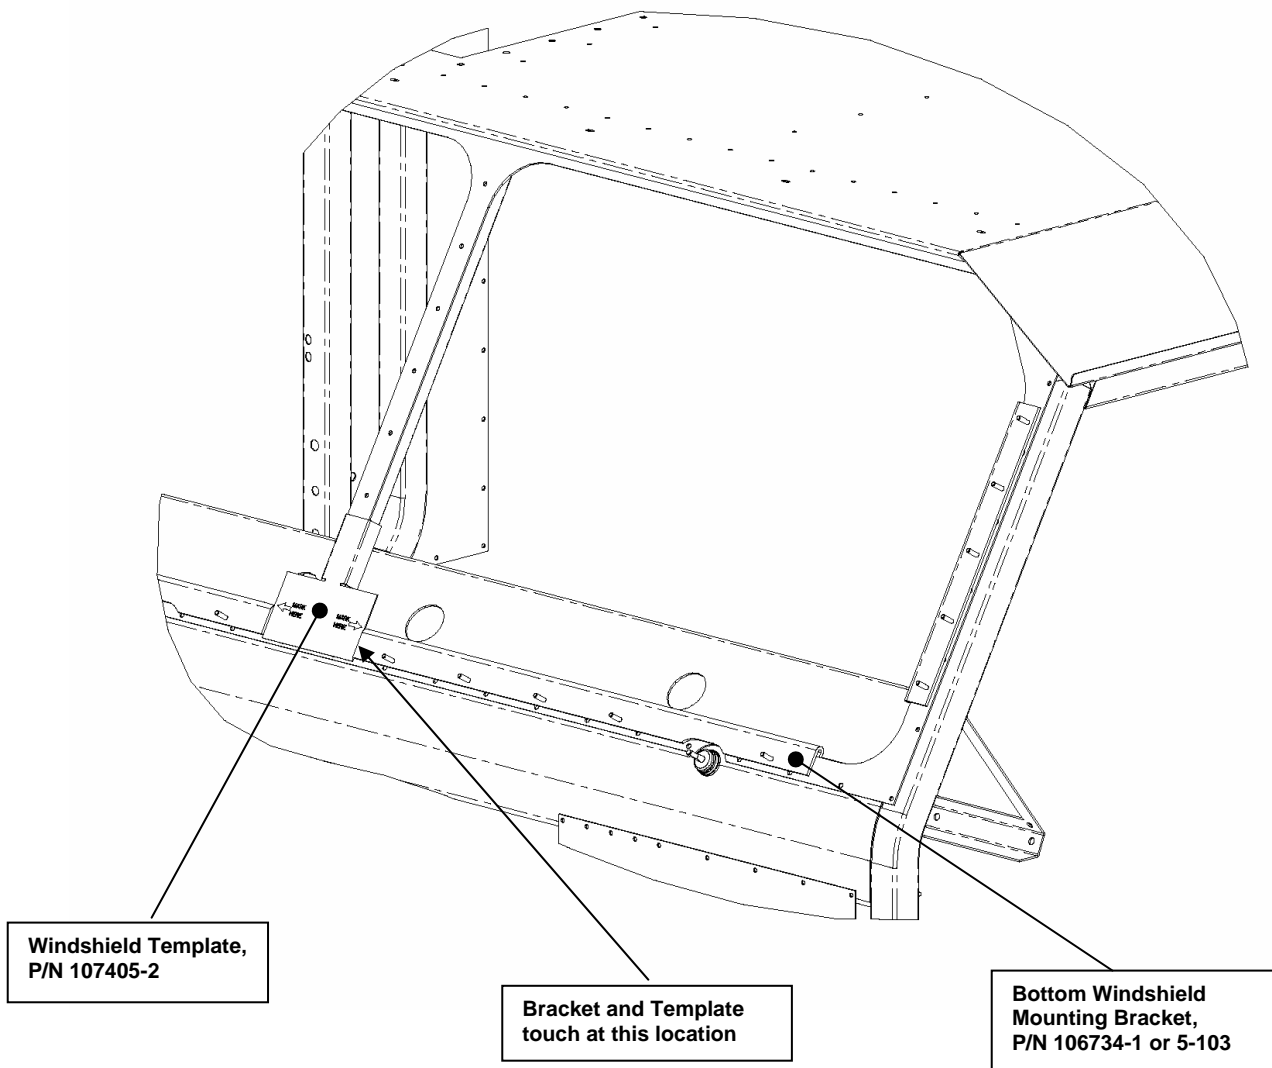

Figure 16. Windshield Bracket, Bottom Mounting.
- d) Place the Windshield Template (P/N 107405-3) on the vehicle, as shown in Figure 16. Place the Windshield Bracket (P/N 106734-1 or -5-103) against the Windshield Template, as shown in Figure 16. Tighten the bolts on both ends of the Windshield Bracket. Do not tighten all of the bolts at this time, as adjustment may be required in the next steps. Using the same Template, install the other Windshield Bracket on the opposite side of the window frame. Remove the Template from the vehicle when complete.